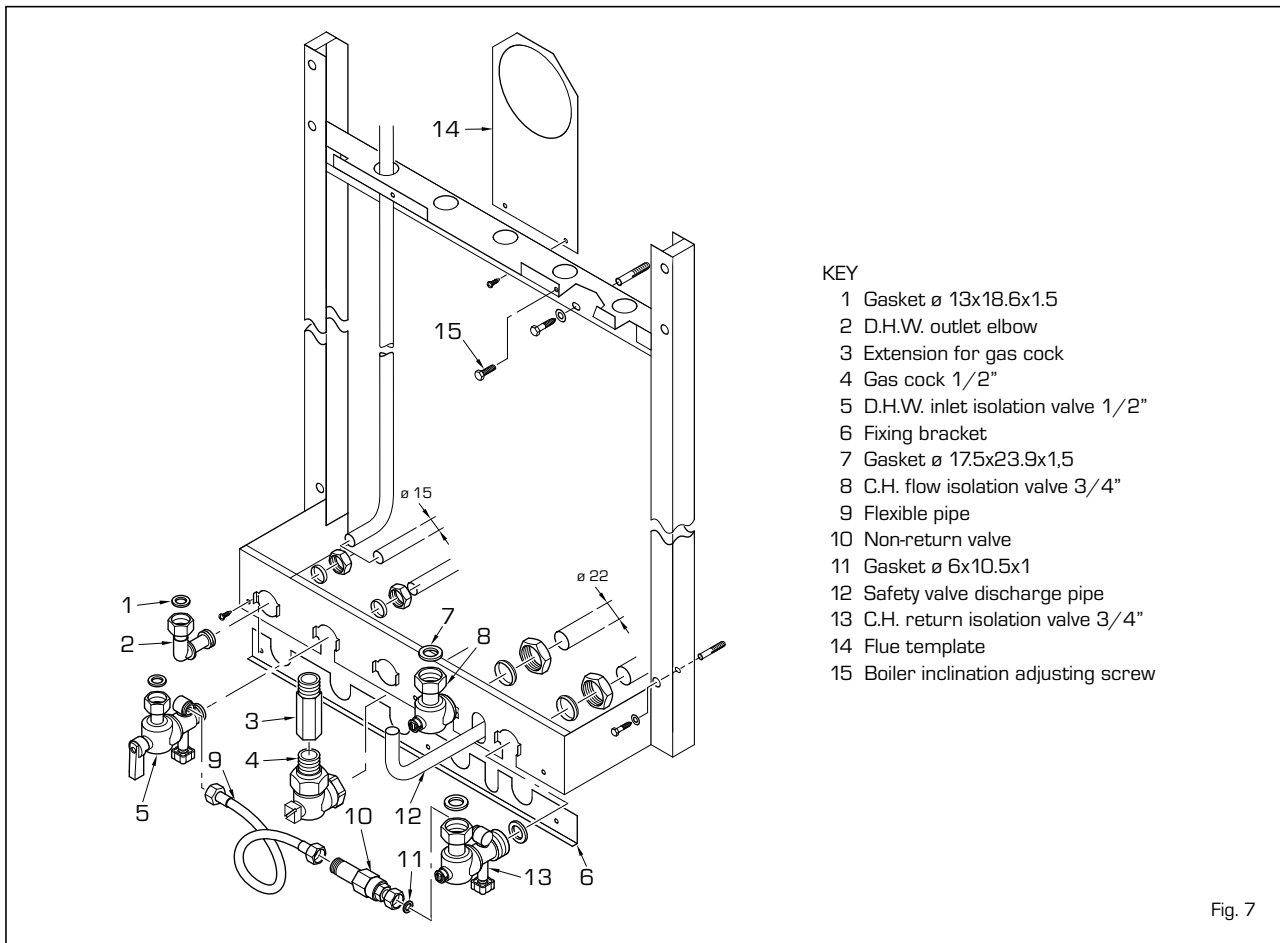

Fig. 7
3.2 FIXING THE BOILER MOUNTING FRAME (fig. 7)
Before installing the appliance it is possible to test the water system by means of the frame kit. The water connections may be done whether straight to the wall or in the vertical manner as shown in fig. 7.
3.3.1 Central heating connections (8-13 fig. 7)
3.3.2 D.H.W. connections (5-2 fig. 7)
- Fit the non-return valve to the C.H. return isolation valve using the gasket provided (10-11 fig. 7).
- Screw the adjusting screws (15 fig. 7) until the appliance is secure and vertical.